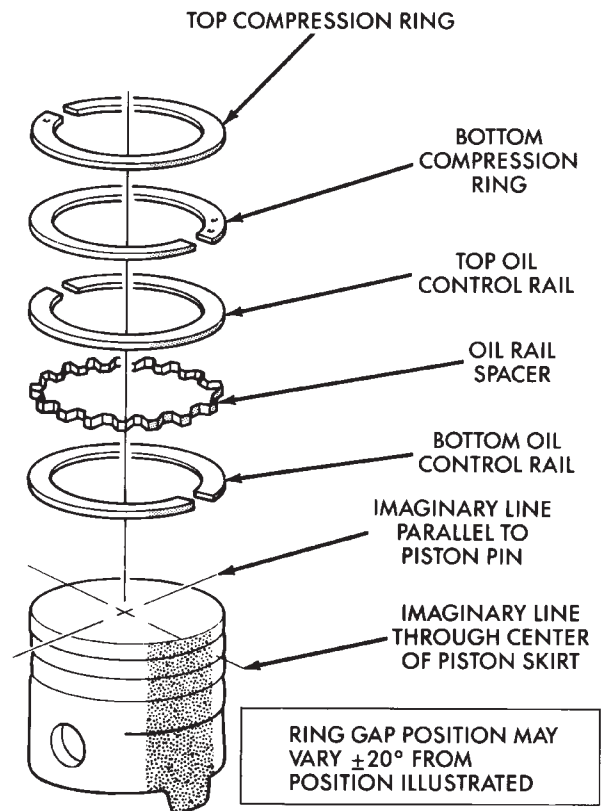

Fig. 17 Ring Gap Position
(11) Position the gaps on the piston (Fig. 17):